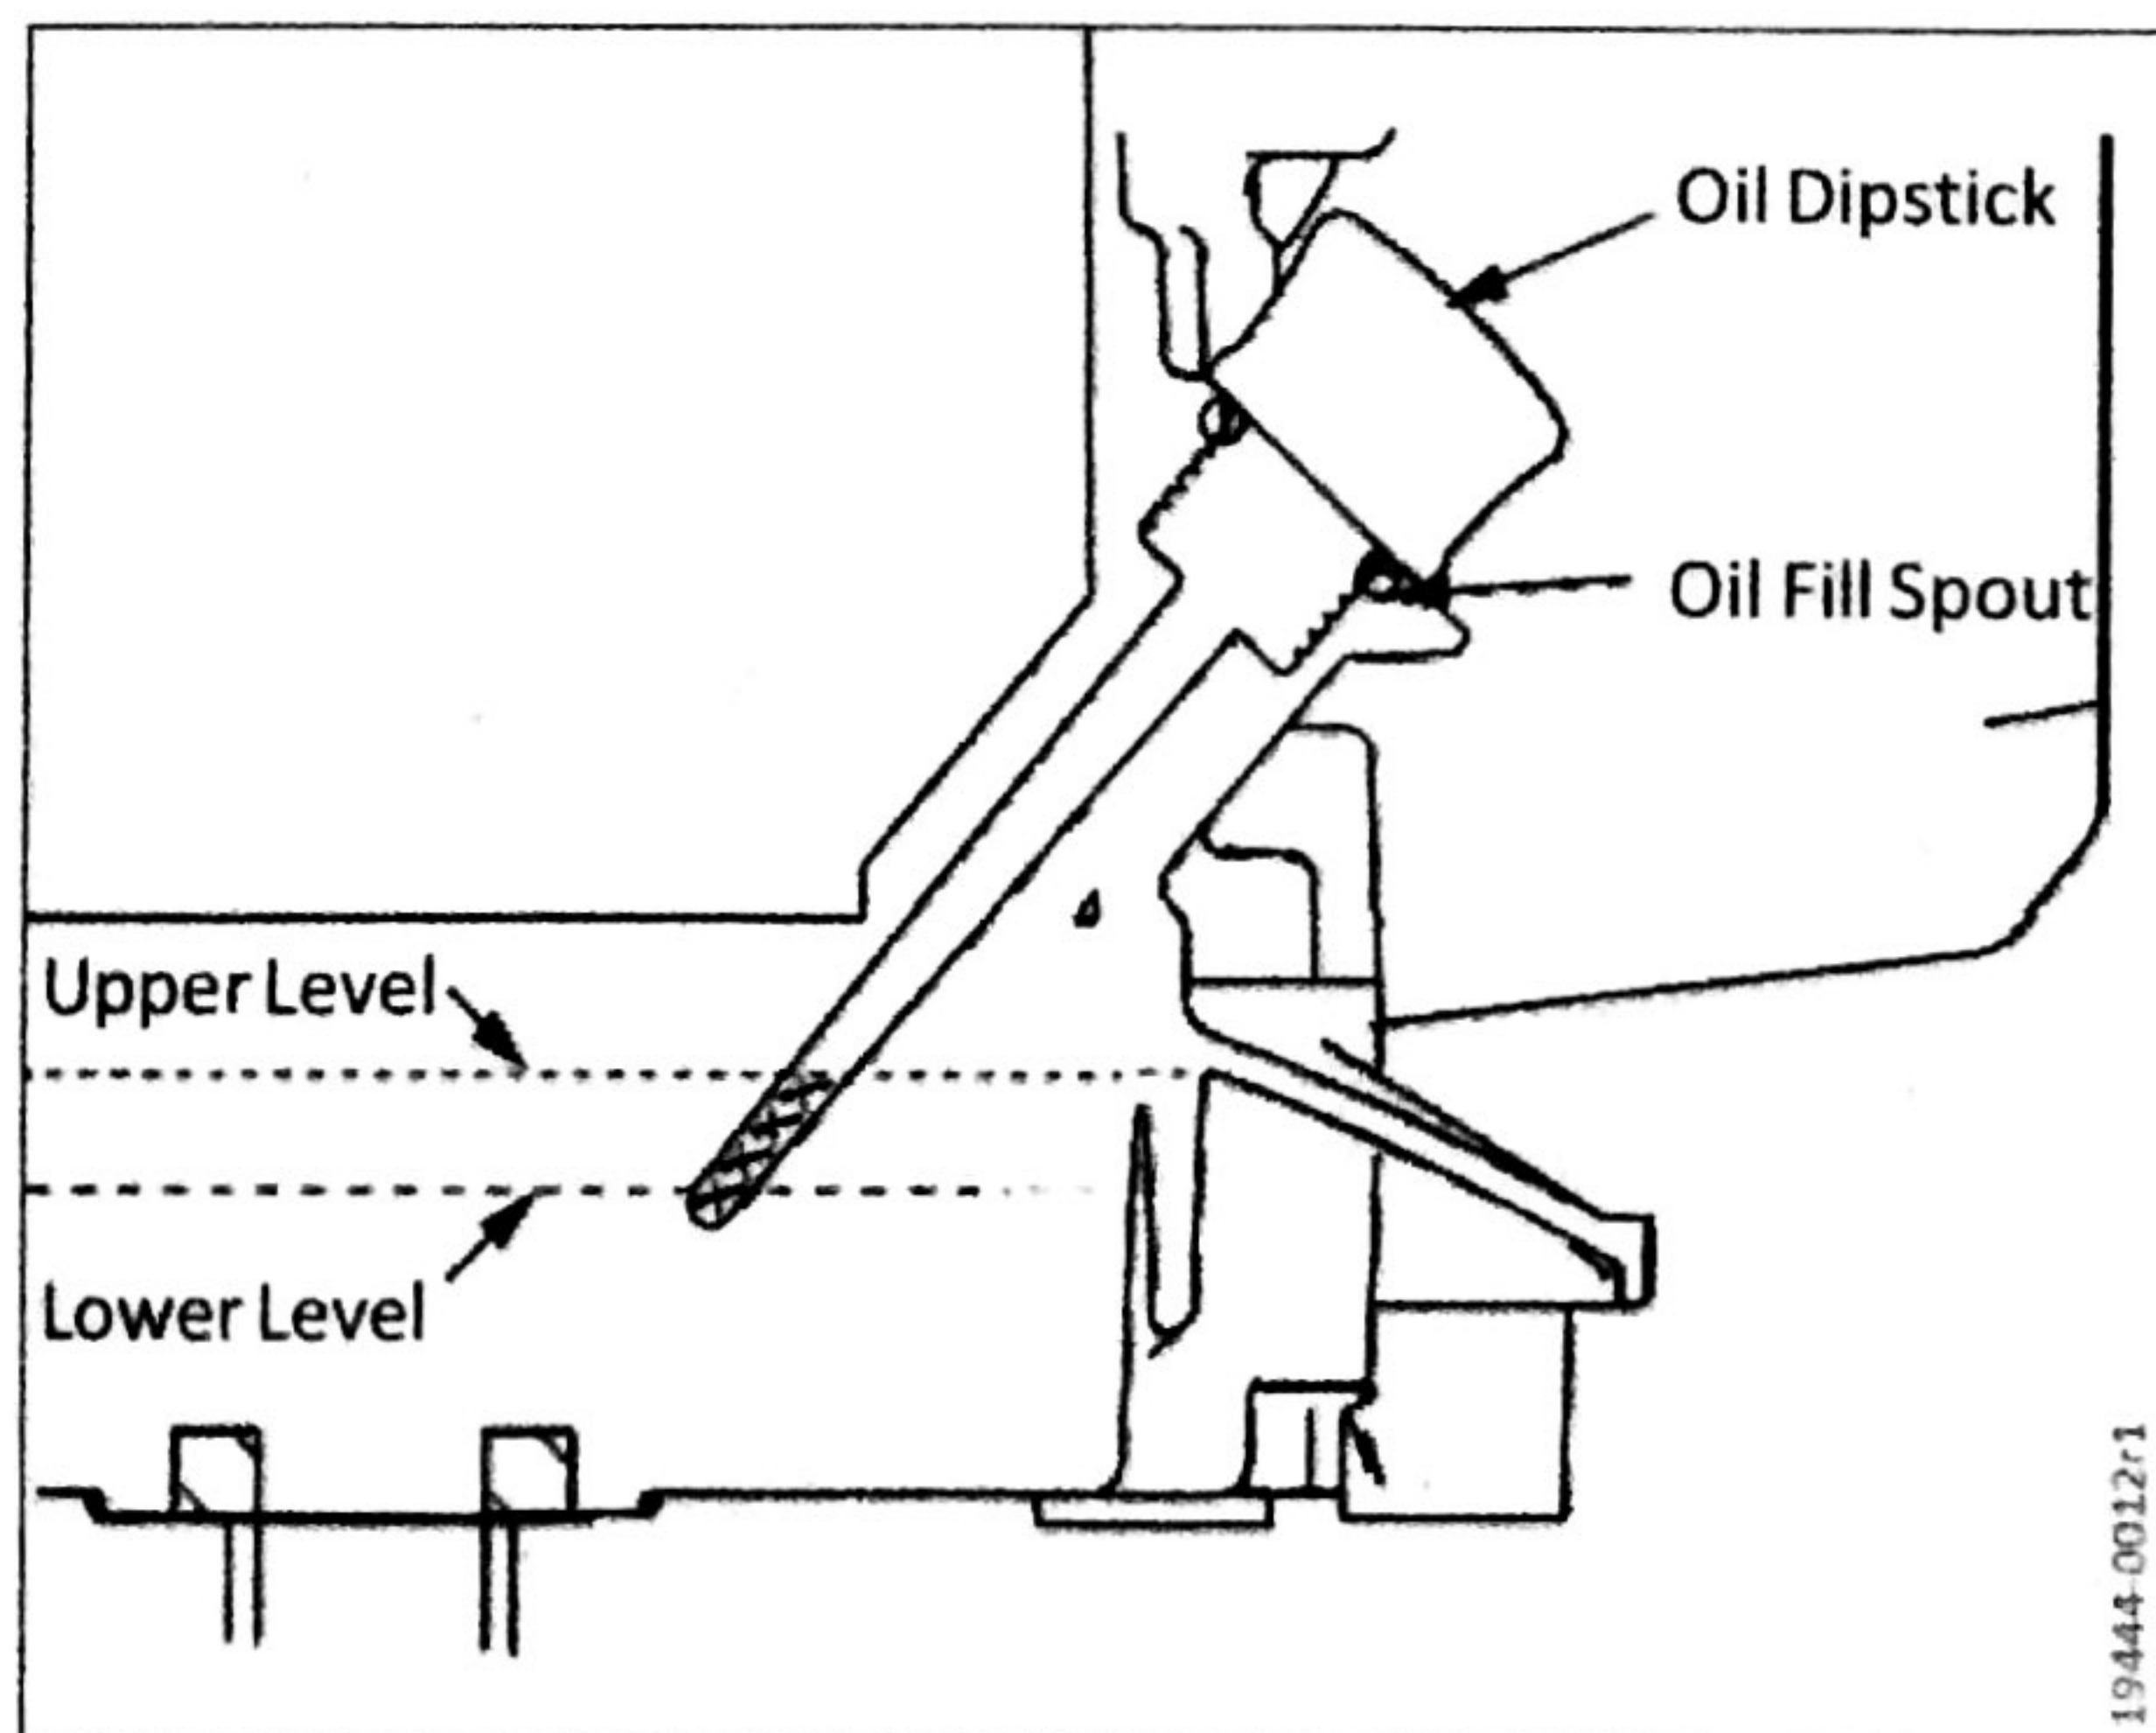

FIGURE 4: Filling Engine with Fuel and Oil.
1. Remove the oil dipstick. Fill the crankcase to the FULL line on dipstick. **DO NOT OVERFILL.** SEE FIGURE 4